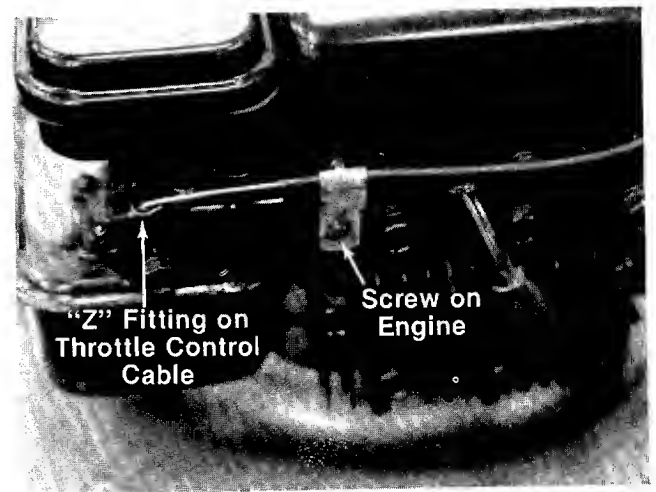

FIGURE 19.
8. Disconnect the throttle control cable from the engine by loosening screw on engine and disconnecting the "Z" fitting. See figure 19.